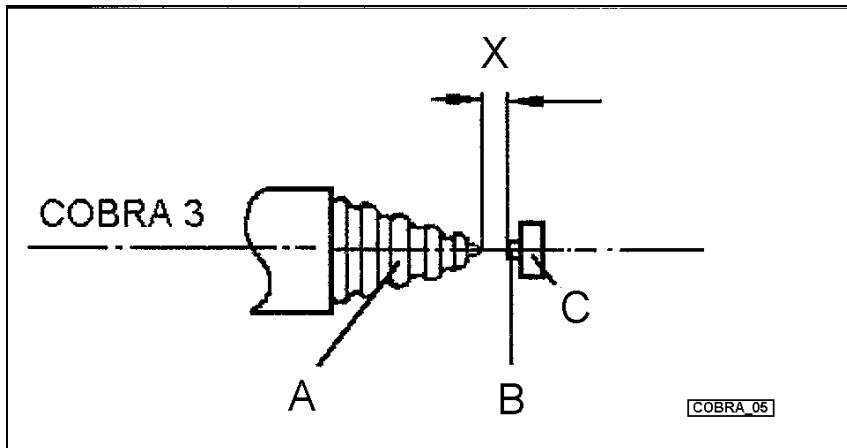
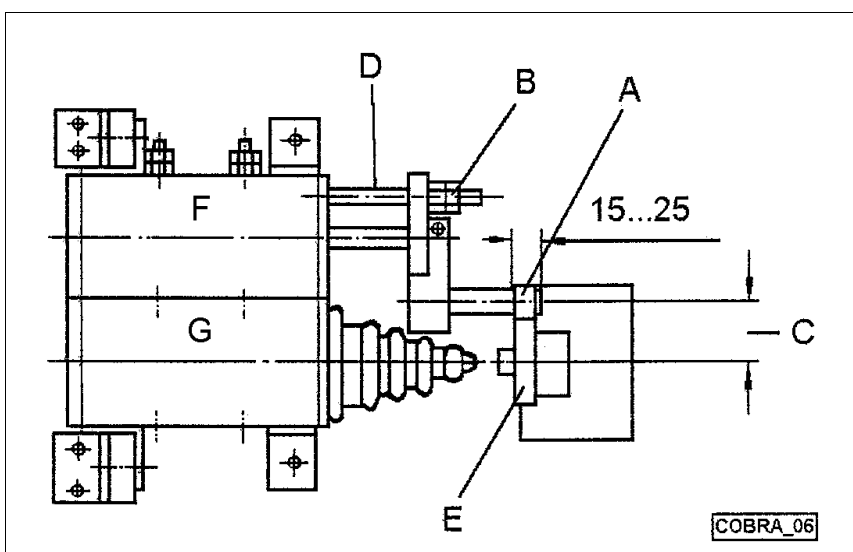

Fig. 5: Horizontal mounting position
Fig. 6: Adjustment of the pick up arm
- Determine the horizontal mounting position according to Fig. 5.
### 5.1.1 Adjustment of the pick up arm (see Fig. 6)
(see Fig. 5: Normal distance 20 mm when the cylinder of the lubricating head and that of the pick up arm are retracted)
Distance between the front edge of the catching element of the pick up arm (see Fig. 6, item A) and the even side of the contact disc (E): 25 to 30 mm.
Engagement of the catching element of the pick up arm (A): 15 to 25 mm (see Fig. 6). Adjustment of the engagement by readjusting the counter nut (B) on the threaded bolt (D), which limits the stroke of the pick up arms (maximum stroke of the pick up arm: 60 mm).
### 5.1.2 Adjustment of the distance between the pick up arm and the lubricating head (see Fig. 6, item C)
Proceed to the adjustment when the COBRA is in the position shown in Fig. 6.
- Check whether lubricant leaks between the lubrication fitting and the lubricating head during the first lubrication cycle. If necessary, check the distance between the fitting and the lubricating head acc. to Fig. 5.
<ul style="list-style-type: none"> <li>● Distance between COBRA and roller/chain conveyor not correct</li>   <li>● Stroke of the pick up arm not adjusted properly</li> </ul>	<ul style="list-style-type: none"> <li>● Check the horizontal mounting position of the COBRA acc. to item 4.1, Fig. 5 and correct it, if necessary.</li>   <li>● Check the adjustment of the pick up arm acc. to item 5.1.1, Fig. 6 and correct it, if necessary.</li> </ul>
<ul style="list-style-type: none"> <li>● The distance between the COBRA and the rollers/chain conveyor is not correct</li> </ul>	<ul style="list-style-type: none"> <li>● Check the horizontal mounting position of the COBRA acc. to item 4.1, Fig. 5 and correct it, if necessary.</li> </ul>
<ul style="list-style-type: none"> <li>● The distance between the pick up arm and the lubricating head is not correct</li> </ul>	<ul style="list-style-type: none"> <li>● Check the distance between the pick up arm and the lubricating head acc. to item 5.1.2, Fig. 6 and 7 and correct it, if necessary.</li> </ul>